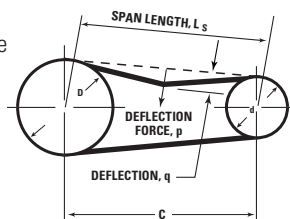

Figure 2
1. Measure the span length of the drive. (See Fig. 2). Set the large “O” ring at 1/64” for each inch of belt span. For example, set the large “O” ring 1/4” for a span length of 16,” at 1/2” for a span length of 32,” at 1” for a span length of 64,” etc.